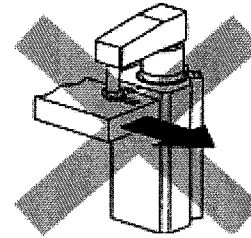

Figure 5
- (5) Do not operate the cylinder in such a way that an external force causes the work piece to move while being clamped. (See Figure 5.)
- (6) Furthermore, do not operate the cylinder in an application in which a rotational force will be applied to the piston rod.